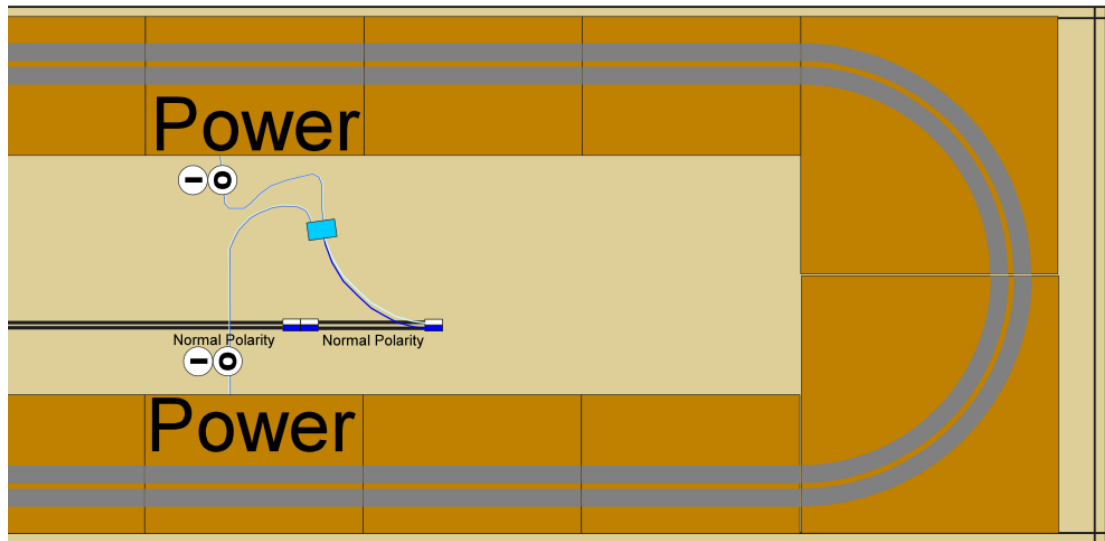

Figure 13 - Connecting power to the outer track
The wiring in Figure 13 represents the NTTT bus cable system on a small portion at the end of one spine of a large layout. It is only being used for the outer track on this layout to connect to the only two modules nearby with power drops (labeled with POWER). The modules are wired BWWB as per the T-TRAK electrical specifications. The 3-way pigtail is attached with normal polarity (i.e. blue to blue, white to white) to the bus cable. The Kato Connector for the outer tracks (O) for the two modules with power drops are connected to the 3-way pigtail. In this diagram the power for the inner track is not shown.